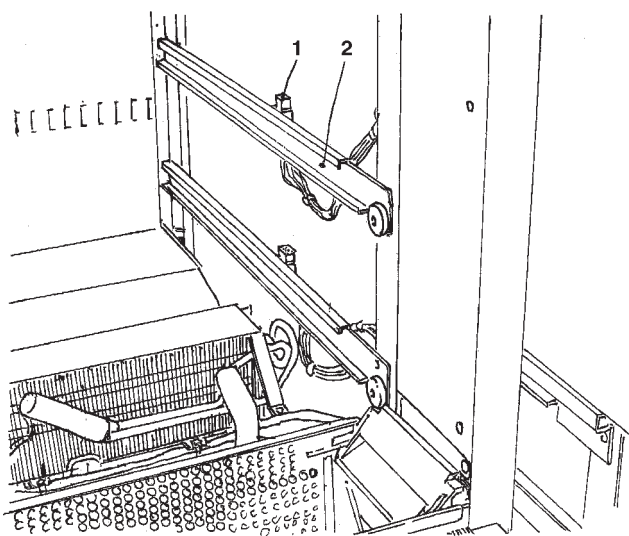

Fig. 25
- Move the guides (see Fig. 25) placed on the side supports, except the first ones at the bottom which stay in the same position.